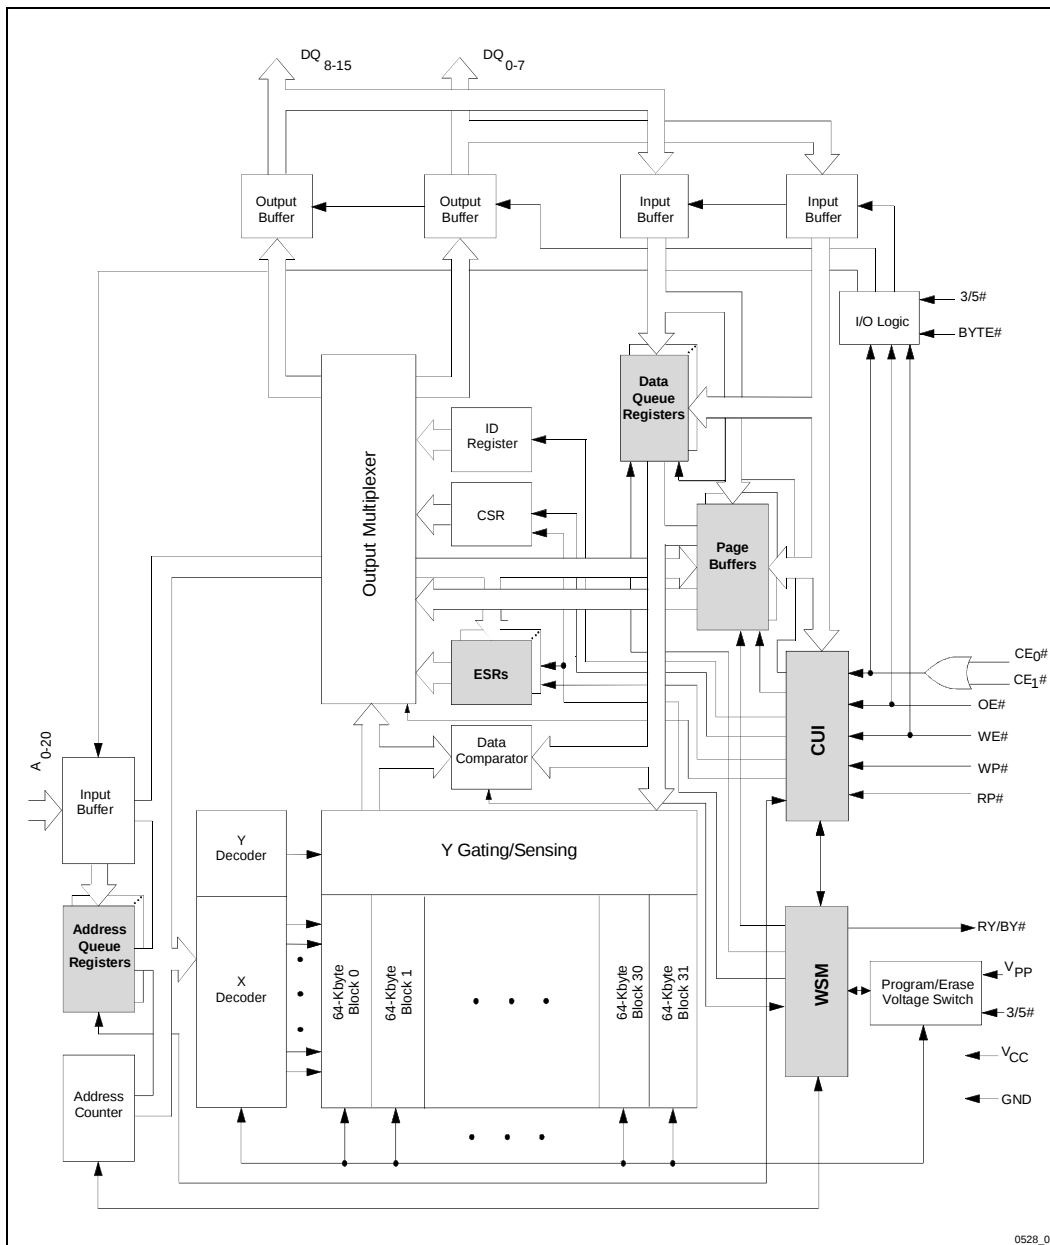
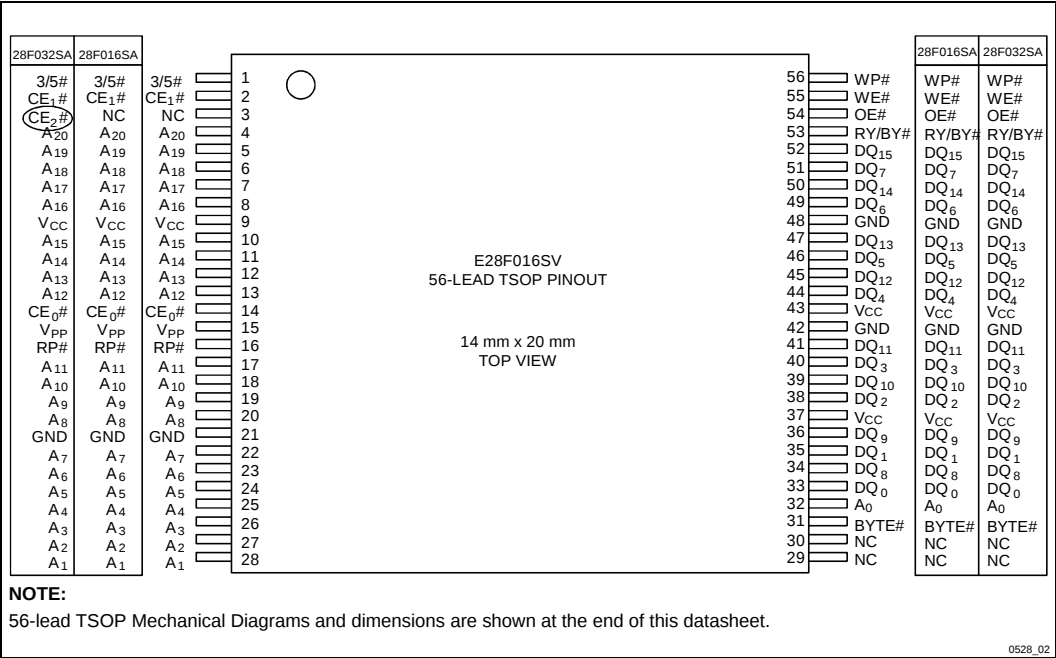

Figure 1. 28F016SV Block Diagram
Figure 2. 28F016SV 56-Lead TSOP Pinout Configuration
-004	Added 3/5# pin to Block Diagram (Figure 1), Pinout Configurations (Figures 2 and 3), Product Overview (Section 1.1) and Lead Descriptions (Section 2.1) Added 3/5# pin to Test Conditions of ICCS Specifications Added 3/5# pin (Y) to Timing Nomenclature (Section 5.5) Increased t_{PHQV} Specifications at 5V V_{CC} to 400 ns for E28F016SV 065 devices and 480 ns for E28F106SV 070 devices. Modified Power-Up and Reset Timings (Section 5.9) to include 3/5# pin: Removed t_{5VPH} and t_{3VPH} specifications; Added t_{PLYL}, t_{PLYH}, t_{YLPH}, and t_{YHPH} specifications Added t_{PHL3} and t_{PHL5} specifications to Power-Up and Reset Timings (Section 5.9) Corrected TSOP Mechanical Specification A₁ from 0.50 mm to 0.050 mm (Section 6.0) Corrected SSOP Mechanical Spec. B (max) from 0.20 mm to 0.40 mm (Section 6.0) Minor cosmetic changes throughout document.
A significant 28F016SV change occurred between datasheet revisions 290528-003 and 290528-004. This change centers around the addition of a 3/5# pin to the device's pinout configuration. Figures 2 and 3 show the 3/5# pin assignment for TSOP and SSOP Type 1 packages. Intel recommends that all customers obtain the latest revisions of 28F016SV documentation.
order address and address A_0 is not used (don't care). A device block diagram is shown in Figure 1.
The 28F016SV 56-lead TSOP and 56-lead SSOP Type I pinout configurations are shown in Figures 2 and 3.